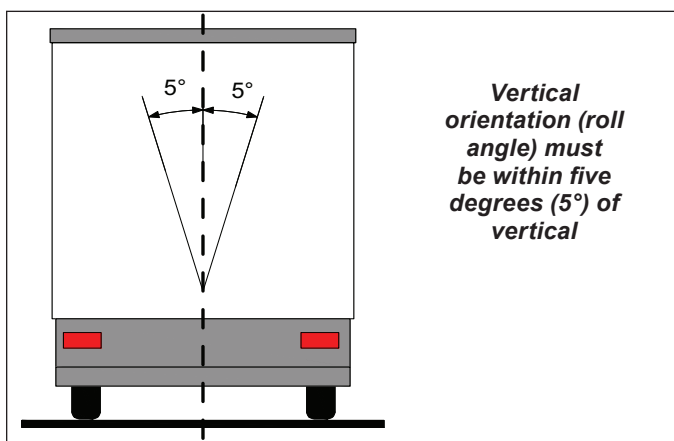

Figure 15 – Installation on Trailer (Vertical)
1. The TABS-8 Advanced Module must be installed with the following considerations (See *Figures 15 through 17*):